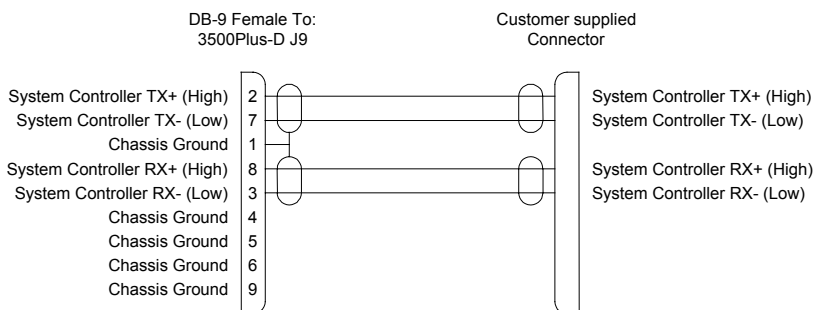

Figure 30. 3500Plus-D RS-422 CPU Link Cable
- COM 4 is an RS-422 CPU Link similar to the RS-232 CPU Link, except the cable may be up to 4000 feet in length and an RS-422 interface card must be installed in the expansion bus. COM 4 may be used with any of the protocols shown in Table 9 on page 23. If necessary, a cable may be fabricated in the field as shown in Figure 30.